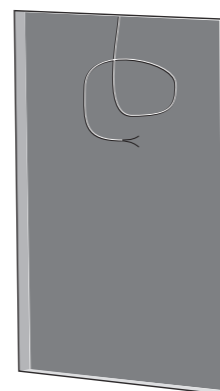

Fig. 3. Drywall Cutout with Speaker Cable
3. Run speaker wire to this location (Fig. 3). Leave enough slack to make the connections when that time comes. Tie down the speaker cable to prevent it moving and rattling in operation. Make sure that the speaker cable does not come into contact with nails or screws that might damage the electrical insulation.